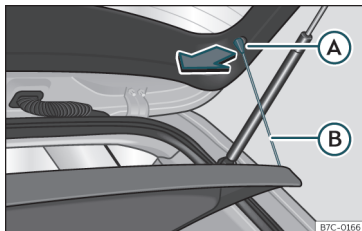

Fig. 135 In the boot: removing and installing the shelf.
- Detach the cord loops >>> **Fig. 135 A** from their hooks (A).
- Hook the loops >>> **Fig. 135 B** to the rear lid.